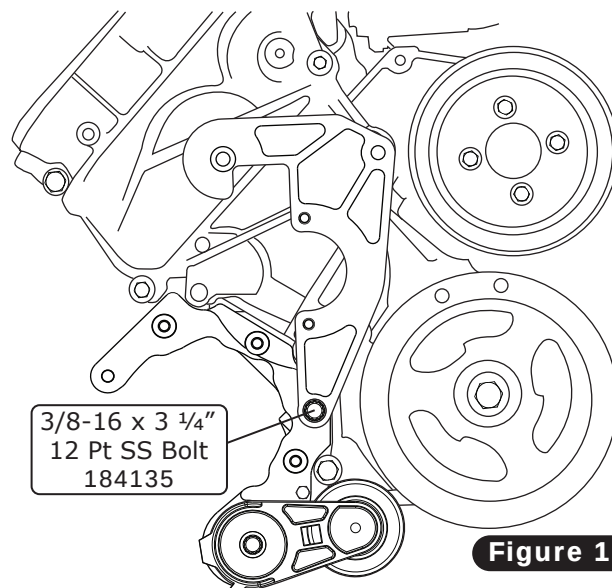

Figure 1a
2. Mount the upper bracket to the lower bracket assembly using a 3/8-16 x 3 1/4" 12 pt SS bolt (See Figure 1a, below).